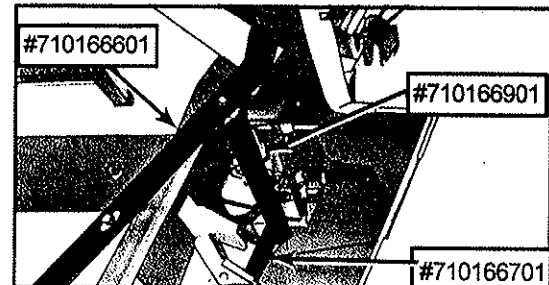

Figure 3
3. Bolt #710166901 brace to door post and right support under dash panel using 1/4" x 1 1/2" hex bolts and nuts. Tighten bolts up to bring door post and right support tight against tractor. Now tighten bolts in step 1 and 2. See Figure 3.